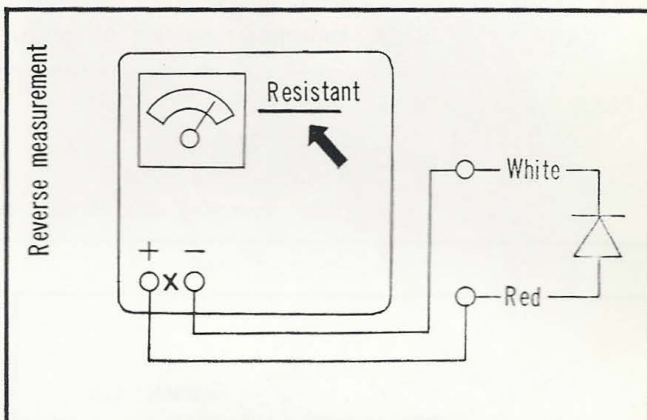

Figure 5-41. Measuring in the reverse direction
- c. Measuring in the reverse direction (C50, C65, S50, S65). Perform the measurement in the same manner as for the normal direction measurement but with the tester "X" terminals connected in reverse, the \ominus connected to the white lead of the selenium rectifier and the \oplus side to the red lead of the rectifier. The selenium rectifier is in good condition in the reverse direction if it measures over 1500Ω (Fig. 5-41)